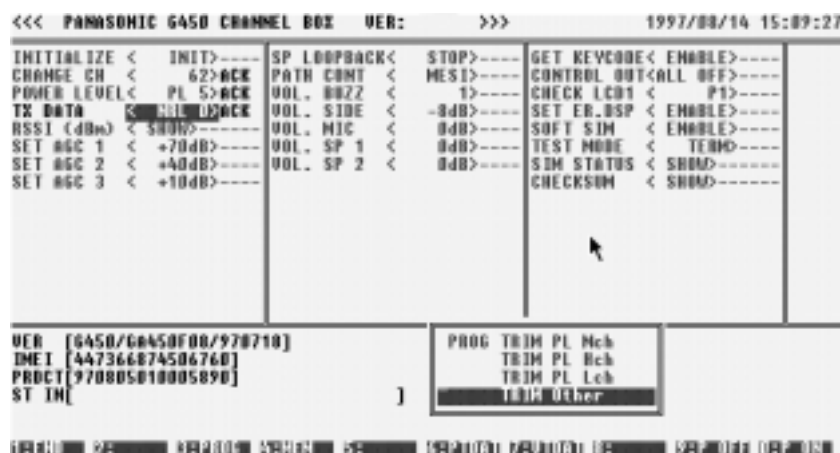

Figure 17: RSSI reading 2
8. Figure 17 At the C press 6 and highlight program TRIM other press ENTER